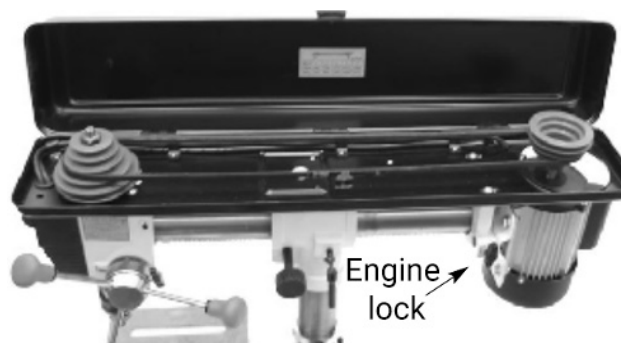

Figure 14 - Adjusting the V-belt tension
See Figure 14.
- To change the spindle speed, loosen the motor lock knob (see figure 14) and press the motor against the front column drill. This will loosen the belt and allow the belt to move to the desired pulley groove for the required spindle speed. Once the belt has been moved, toward the rear of the engine on the column drill, pull the engine lock knob.